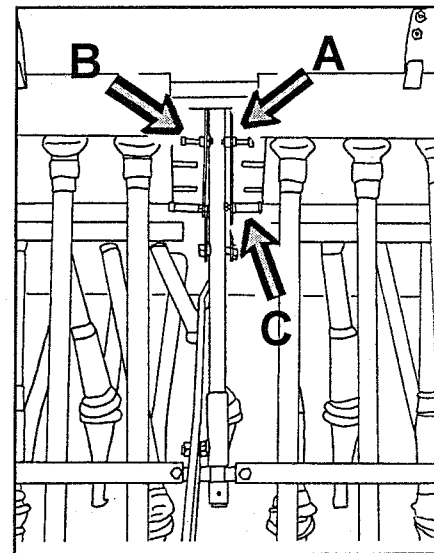

Fig. 2E.
On the fine seed box the two angle irons (A) holding the emptying trays are mounted. On the 3,0 m machines the brackets must be mounted "back to back", on 4,90 m machines they must be mounted with space between them. On 3,0 m machines an M8x40 bolt (B) with two nuts is mounted to hang the emptying tray on and an M8x90 set screw and three nuts and a rubber bush as a stop for the emptying tray. On 4,0 m machines an M8x40 bolt with 2 nuts is mounted on each angle iron as suspension for the emptying tray, and an M8x50 bolt (C) with two nuts and rubber bush as a stop for the emptying tray. See fig. 2E.